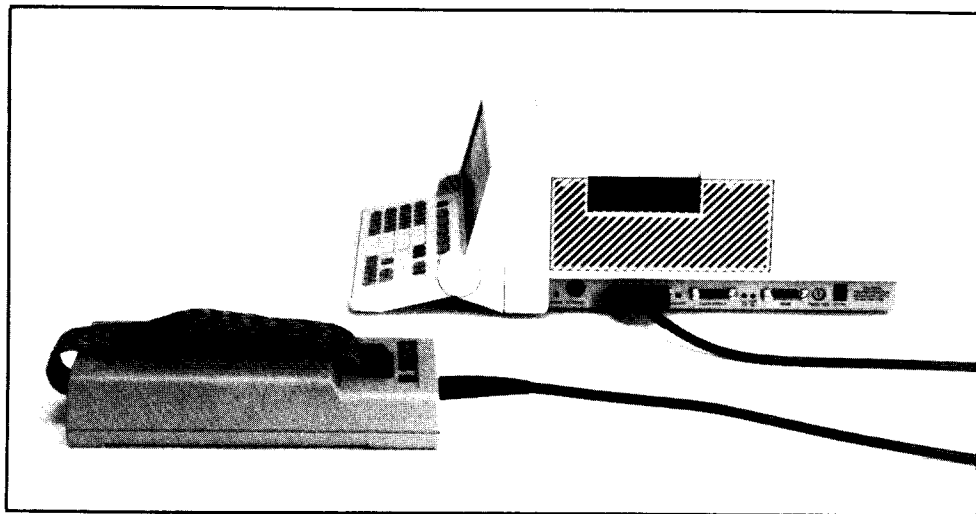

Figure 9: Pod Connection
1. Connect the pod's cable to the 25-pin POD connector located on the right side of the mainframe as shown in Figure 9. If necessary, disengage the cable-locking mechanism on the end of the cable by sliding it towards the front of the mainframe.